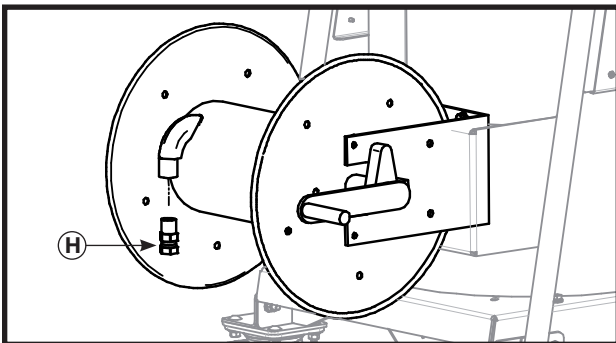

Figure 3
1. Install the hydraulic straight fitting (H on figure 3) to the reel exit.